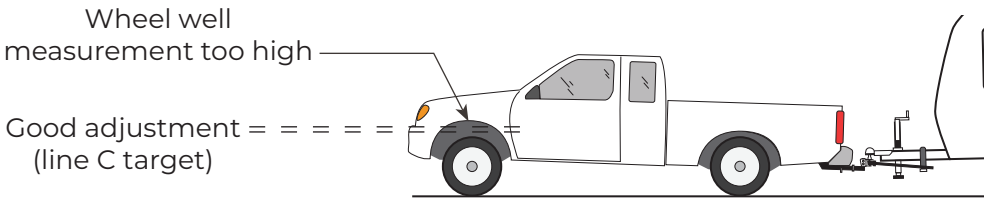

Figure 24 - Under-adjustment
**Under adjustment** occurs when there is not enough weight being transferred to the front axles of the tow vehicle. See Figure 24.